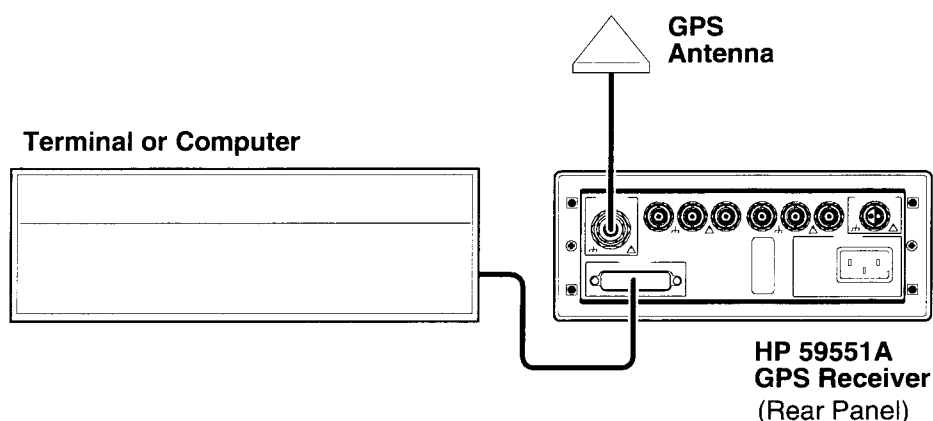

Figure D-4. HP 59551A Time Tagging Operational Verification Setup
- 1 Connect a GPS Antenna and cable to the HP 59551A and allow the Receiver to indicate it is in “GPS Lock” mode as indicated by the illuminated **GPS Lock** indicator. Until GPS lock is attained, the following tests will not be valid. Your test setup should be similar to Figure D-4.